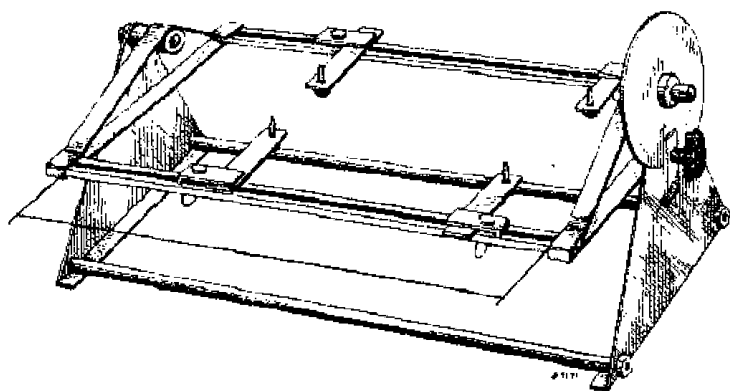

Fig. 3.
2. It is desirable to carry out repairs on a support, preferably a universal type (Code No. 09.991.380) Fig. 3.